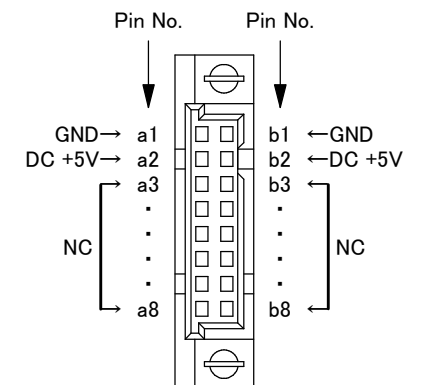

Fig.5 DIN connector pin assignment
- DIN connectors for supplying the power are located at the back of the plug-in module mounting slot. Its pins are assigned as shown in Fig.5, when viewed from the front.